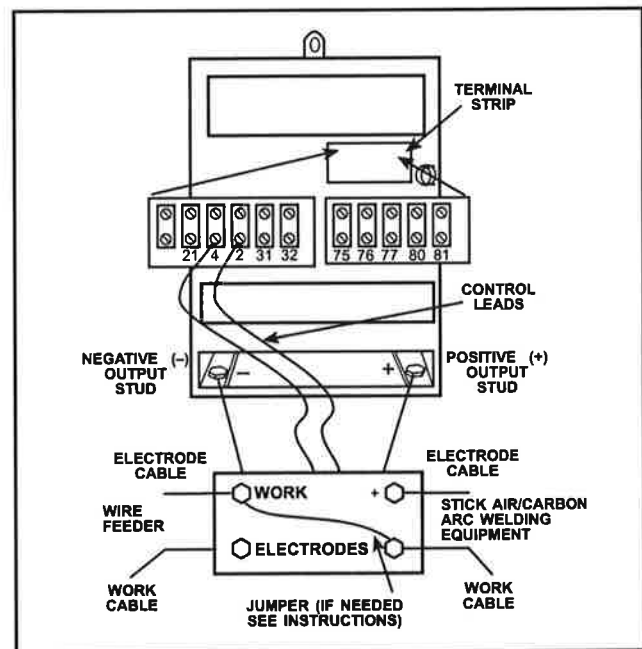

FIGURE C.4 - MULTI-PROCESS SWITCH CABLE CONNECTIONS.
- Connect the right cable from the MULTI-PROCESS SWITCH (facing the front of the machine) to the IDEALARC DC-600 positive (+) output terminal. See Figure C.4.
- Connect the left cable from the MULTI-PROCESS SWITCH (facing the front of the machine) to the IDEALARC DC-600 negative (-) output terminal. See Figure C.4.
13. Connect the wire feeder electrode and work cables. See Figure C.4.
15. Connect stick or air/carbon arc electrode and work cable. See Figure C.4.
NOTE: When it is not necessary to have separate ground cables for stick and semi-automatic or automatic welding, connect a jumper from the MULTI-PROCESS SWITCH "Work" terminal to the MULTI-PROCESS SWITCH "negative" terminal. See Figure C.4.